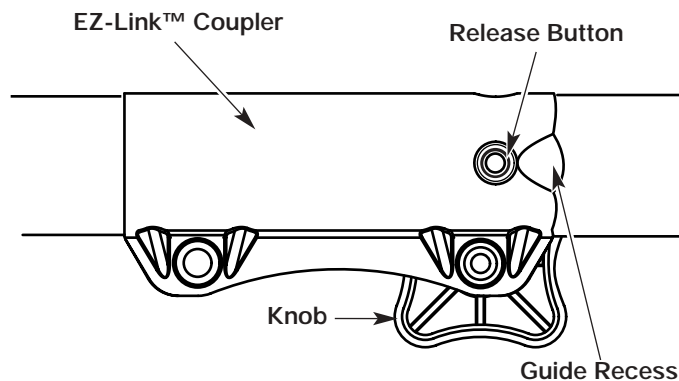

Fig. 9
NOTE: Aligning the release button with the guide recess will help installation (Fig. 9).
- Turn the knob counterclockwise to loosen (Fig. 9).
- Press and hold the release button (Fig. 9).
- Turn knob counterclockwise to loosen (Fig. 9).